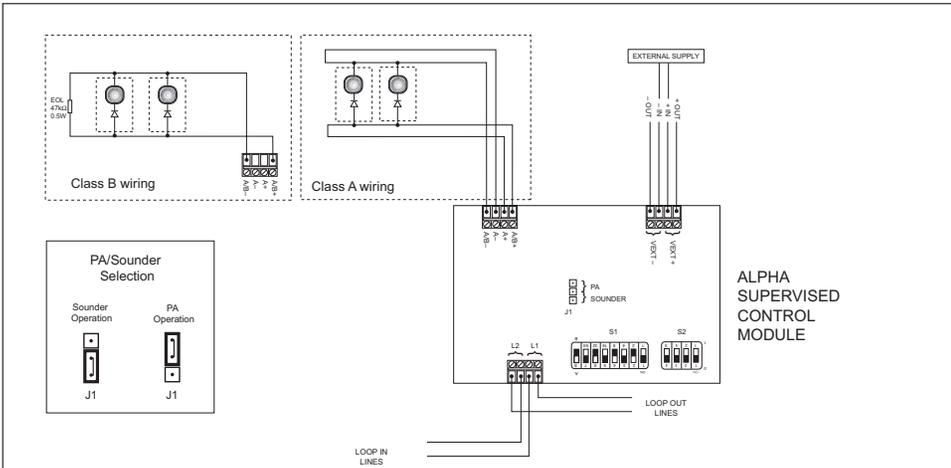

Fig 2. Wiring Diagram for Alpha Supervised Control Module
3. Connect the module for Class A or Class B wiring (Fig 2). Bit 8 of the DIL switch is used to select the class of wiring. All wiring must conform to local codes and regulations.
If the Supervised Control Module is to be used to drive speakers, the jumper J1 (Fig 2) should be set as indicated. The external supply should be replaced by an audio amplifier with a maximum of 70.7 Vrms with wire supervision capability as per NFPA 72.